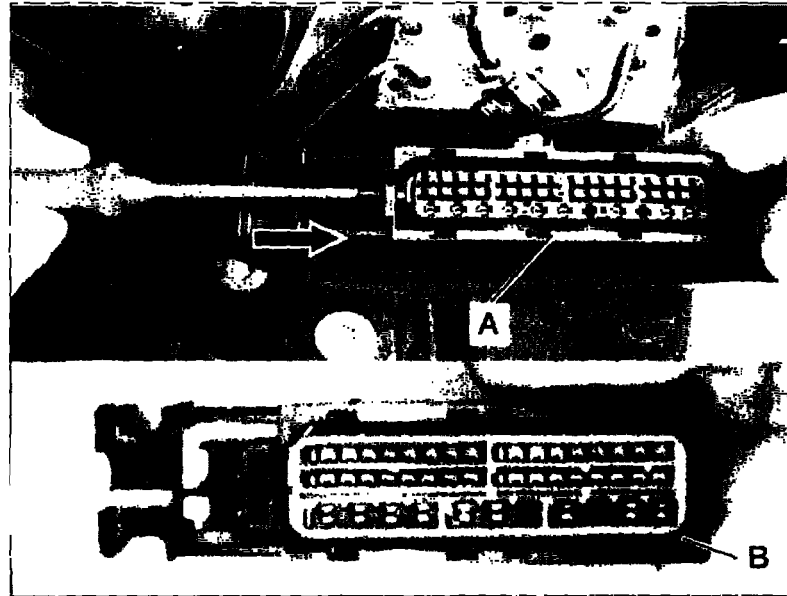

Figure 12
11. Close the (gray) secondary lock of the SBC connector housing (A, B, Figure 12):
- **Connector Type A** (Figure 12):
Slide the gray secondary lock in the direction indicated by the arrow (Figure 12), using a small screw driver until it locks into place.
- **Connector Type B** (Figure 12):